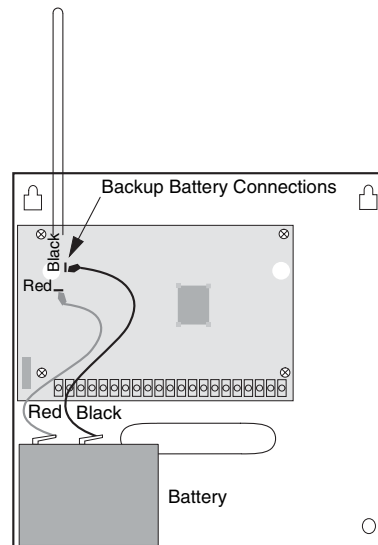

Figure 19. Connecting the Backup Battery
1. Connect the red and black battery leads (included with panel) to the lugs located in the upper-left area of the panel circuit board (see Figure 19).